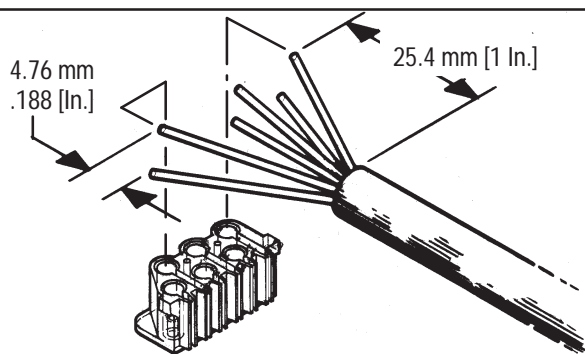

Figure 2
1. Strip cable jacket and trim wires to dimensions shown in Figure 2. Place end of each wire against back of slot and press all wires down into slots.